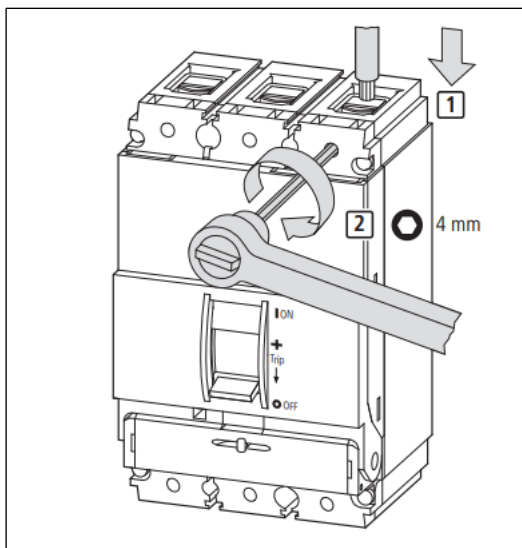

Figure 33: Torque connections circuit breaker
2. Torque connections (80 lbs-in (9Nm)) in the circuit breaker, see Figure 33.